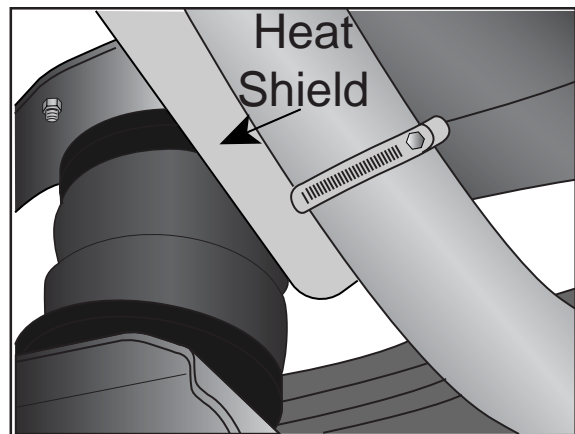

Figure 26
Attach the heat shield (G) to the exhaust pipe using the provided clamps. Bend the heat shield for maximum clearance to the air spring (Fig. 26).